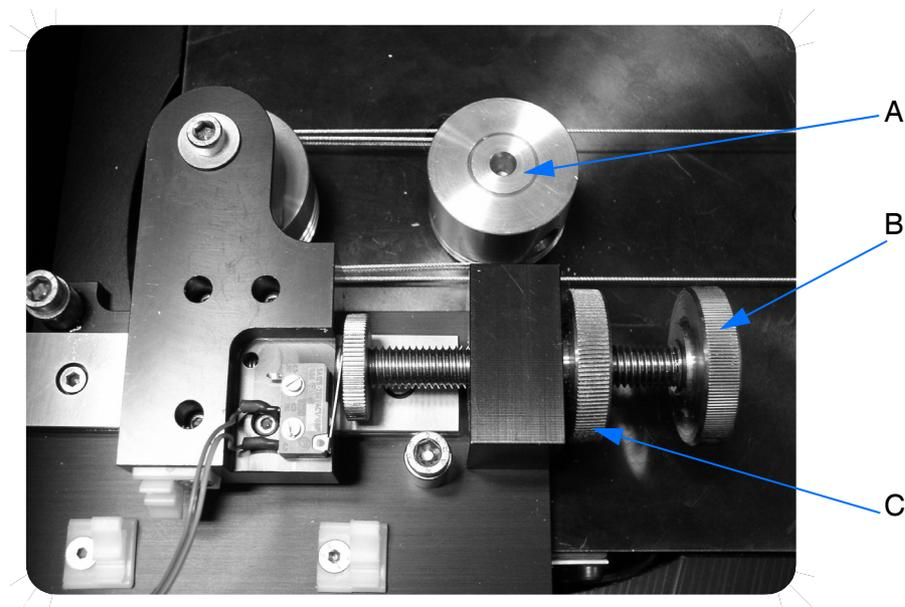

Figure 46: IFS 125HR - Scanner drive unit, DC motor
The drive cable for the moving mirror assembly must occasionally be checked for tension. Especially, when installing a new cable it is recommended to check the cable tension to avoid slipping. Always adjust the drive cable tension by the thumb screw (B in figure 46) and fix the tension by the counter screw (C in figure 46).
- There must be no signs of cable slipping at the capstan (A in figure 46) when the scanner turns at high velocity in long scan mode.